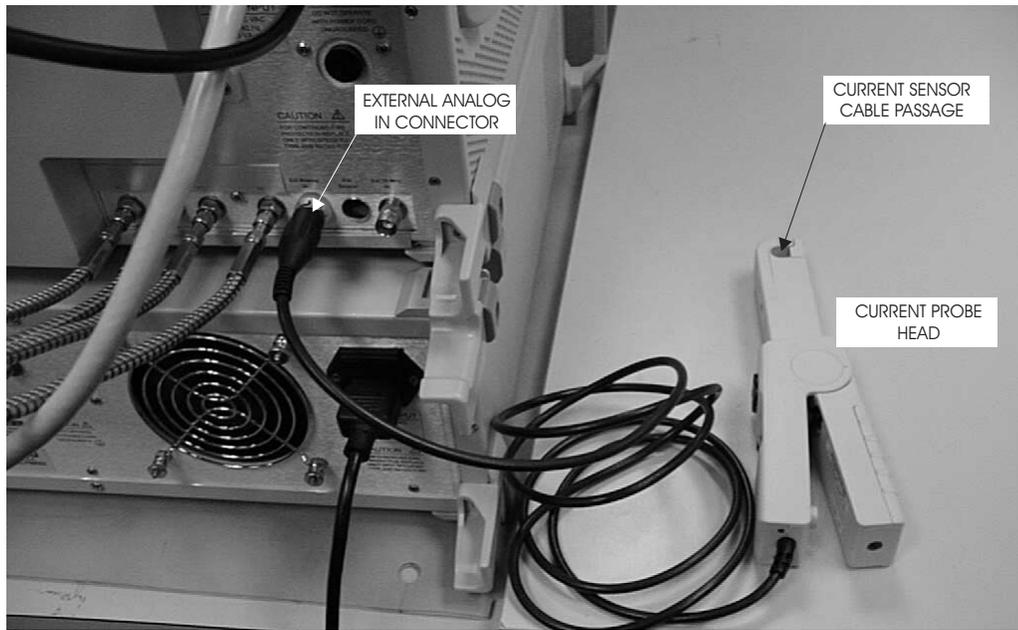

Figure 2-4. *Current Probe Connection*
Step 7. (Optional, for drain current PAE measurements) Connect the current probe cable BNC connector to the Ext. Analog In connector on the rear of the MS462XC as shown in Figure 2-4 (page 2-7).